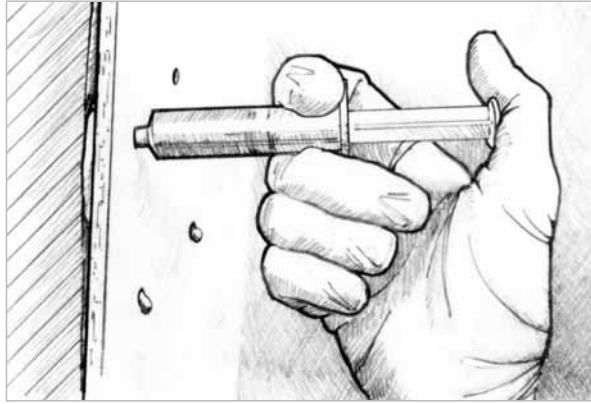

Figure 8-1 Drill $\frac{3}{16}$ " (5mm) holes through the laminate, in areas of suspected voids. Inject the mixture into the voids.
3. Fill all voids between laminate and the lead ballast with a 105 Epoxy/404 or 406 filler mixture, thickened to a catsup consistency after the laminate and voids have dried thoroughly. Inject the mixture under pressure into the void using an 807 Syringe, with the tip cut back to fit the $\frac{3}{16}$ " (5mm) hole (Figure 8-1). If voids are extensive, use an 810 Fillable Caulking Tube with the appropriate sized drilled hole in the laminate. You may also use Six10 Epoxy Adhesive dispensed through a static mixer. Fill the remaining holes in the laminate a 105 Epoxy/404 or 406 filler mixture thickened to a mayonnaise consistency or with Six10 Epoxy Adhesive. Allow the epoxy to cure thoroughly. If necessary, use multiple applications to avoid excessive exothermic heat buildup from filling too large a void at one time.